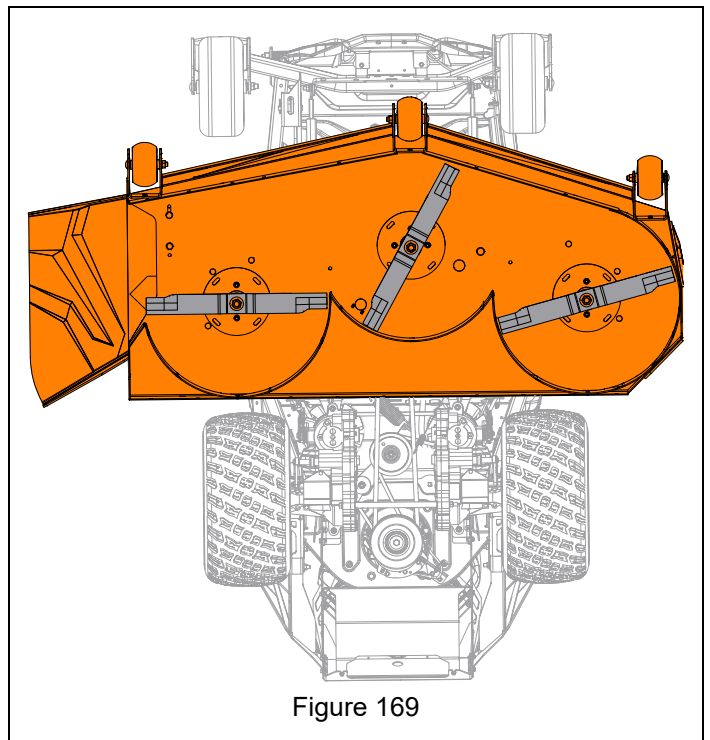

Figure 169
Correct alignment of cutting deck and blades is essential to achieve even mowing. See Figure 169. Check these conditions:
3. Manually rotate mower blades into FRONT to BACK orientation. See Figure 169.